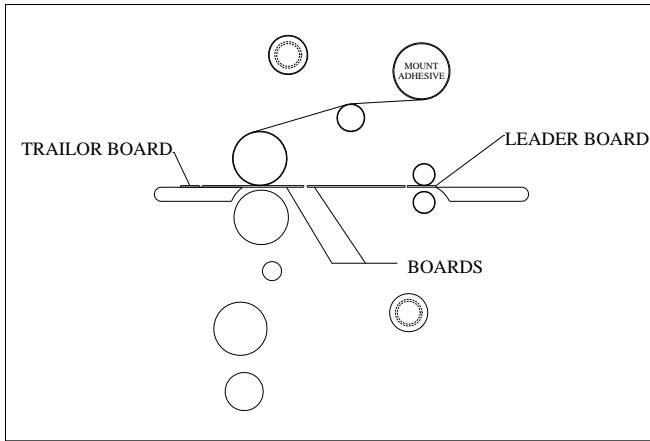

FIGURE 32
1. Load the laminator as illustrated in (Fig. 32). Remove chill idler.